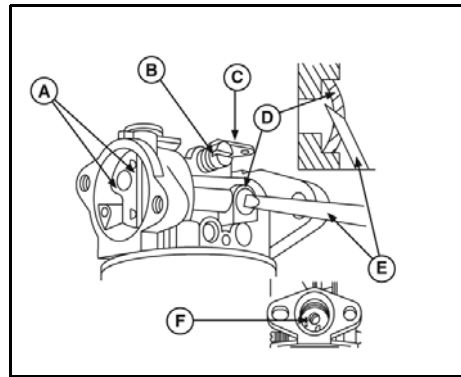

Figure 16
3. Remove idle speed screw with spring (B, Figure 16). Remove limiter cap and idle mixture screw with spring, if equipped.
4. Rotate throttle shaft (C) to the closed position. Remove throttle valve screws (F), then remove the throttle valve. Slide out the throttle shaft with the foam seal. Discard the seal.
5. Grasp choke valve and remove from choke shaft (A). Slide out choke shaft with the foam seal. Discard the seal.
6. With a modified pin punch (E), remove and discard Welch plug (D) from carburetor body.